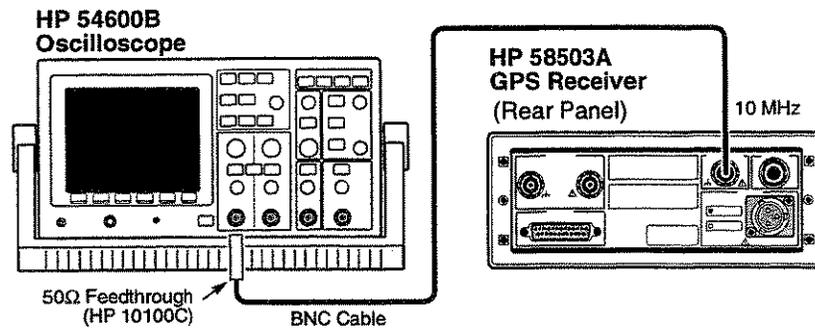

Figure 1. HP 58503A 10 MHz Operational Verification Setup
- 2 Connect the oscilloscope to the rear-panel **10 MHz OUT** output of the HP 58503A as shown in Figure 1.